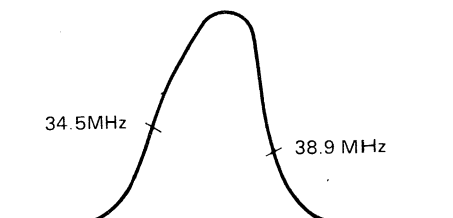

Figure 12. Overall Response Curve
I.F. Overall Response	I.F Overall Response should be as shown in Figure 12.